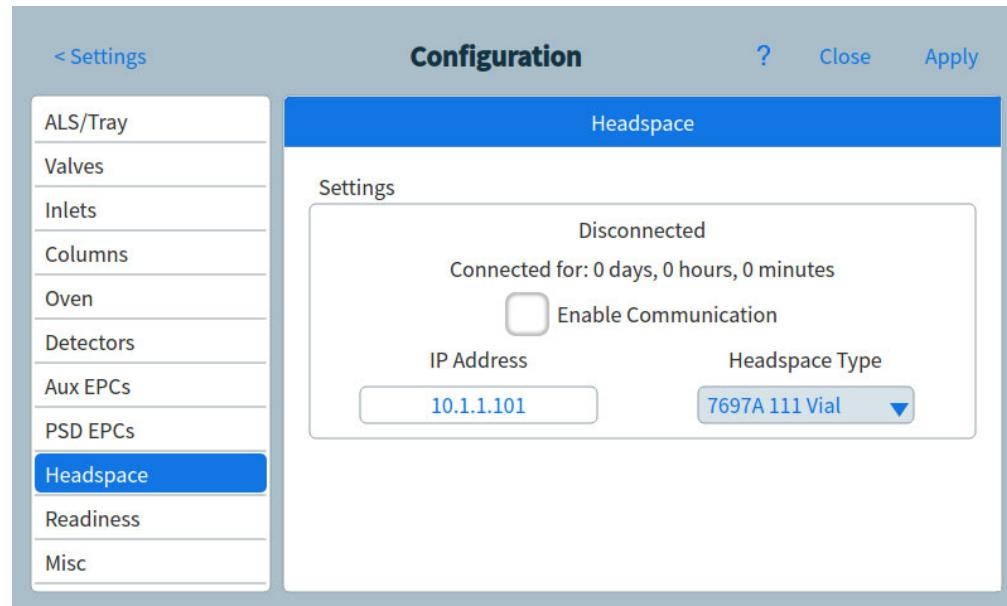

Figure 64. Headspace settings page
- 1 Select **Settings > Configuration > Headspace**. See **Figure 64**.